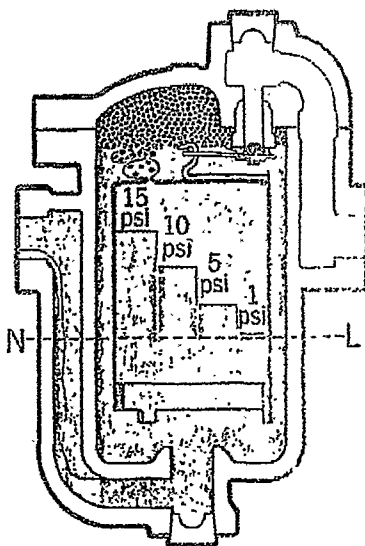

Fig. 3-1. Liquid levels in bucket for opening a $\frac{1}{8}$ " orifice No. 214 or No. 814 trap at working pressures indicated.
Obviously at 15 pounds working pressure differential the full weight of the bucket is not required to open the valve. Instead of the 21 oz. weight to open at 21 psig only a 15 oz. weight is required for 15 psig. Fig. 3-1 shows the water levels in a No. 814 bucket required to open the valve at pressures from 15 psi down to only 1 psi.
3. When entering condensate brings the condensate level slightly above the neutral line the bucket exerts a slight pull on the lever. But the valve does not open until the condensate level rises to the opening line for the existing pressure differential between the steam and the condensate return header. (See Fig. 3-1)